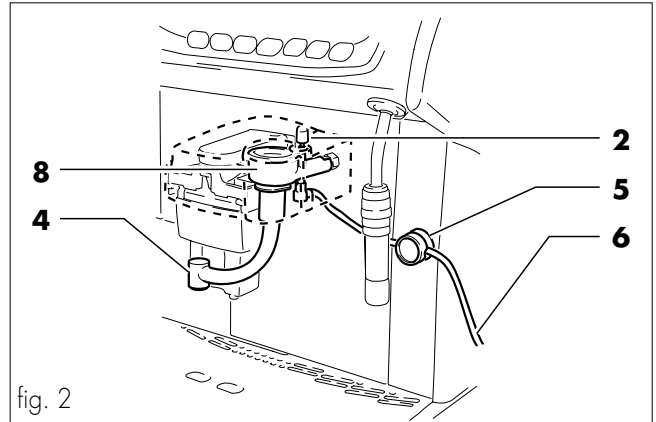

fig. 2
The cappuccino dispensing unit (fig. 2) consists of:
- milk supply tube (fig. 2, 6)
- retaining clip for milk supply tube (fig. 2, 5)
- cappuccino device casing (fig. 2, 8)
- pin for regulation of froth quality (fig. 2, 2)
- adjustable dispensing spout (fig. 2, 4)